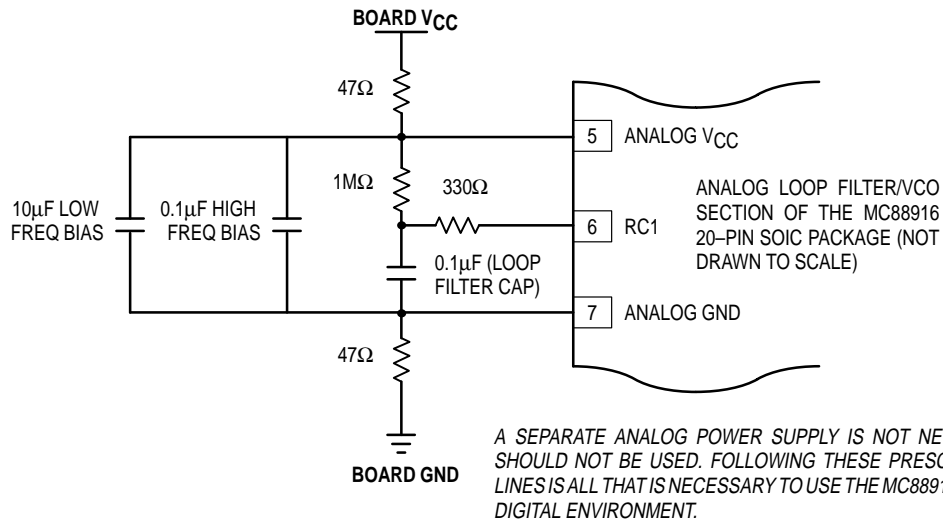

Figure 7. Recommended Loop Filter and Analog Isolation Scheme for the MC88916
- Figure 7 shows a loop filter and analog isolation scheme which will be effective in most applications. The following guidelines should be followed to ensure stable and jitter-free operation:
If good bypass techniques are used on a board design near components which may cause digital  $V_{CC}$  and ground noise, the above described  $V_{CC}$  step deviations should not occur at the 88916's digital  $V_{CC}$  supply. The purpose of the bypass filtering scheme shown in Figure 7
- In addition to the bypass capacitors used in the analog filter of Figure 7, there should be a 0.1 $\mu F$  bypass capacitor between each of the other (digital) four  $V_{CC}$  pins and the board ground plane. This will reduce output switching noise caused by the 88916 outputs, in addition to reducing potential for noise in the 'analog' section of the chip. These bypass capacitors should also be tied as close to the 88916 package as possible.